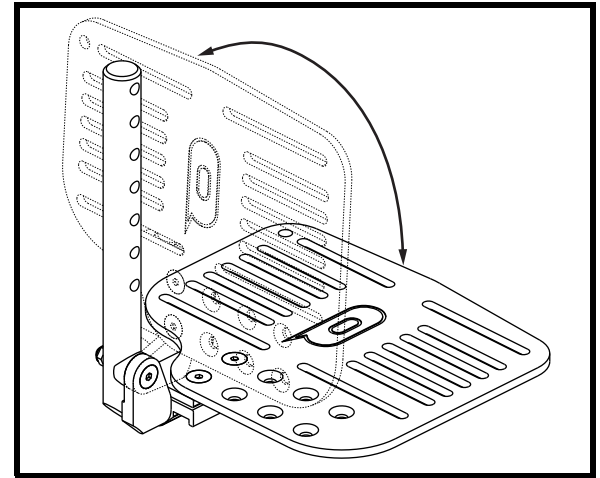

Figure 29. Foot Plate Flip Up Adjustment
The angle adjustable foot plates have two adjustments: angle and depth. The depth can be adjusted to four (4) positions in 1-in. (2.54 cm) increments. If the position of the foot plate adapter is reversed, an additional 0.75 in. (2 cm) of depth can be achieved at the most forward and most rearward positions. See figure 29. The foot plates can also be flipped up for ease of transfer. See figure 29.